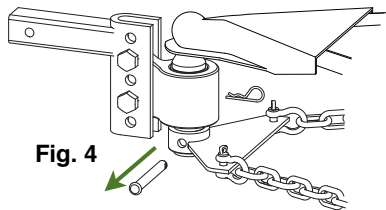

Fig. 4
4. Remove the pin and clip attached to the bottom of the ball and Triangle Plate (fig. 4).